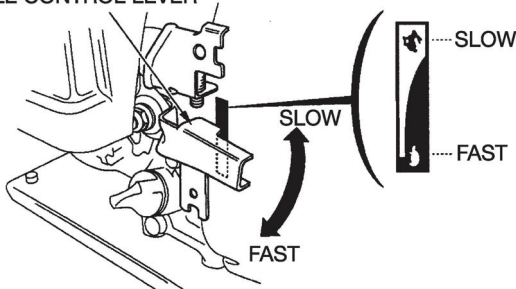

Fig. 9
7. Put the governor handle at the preset speed (as shown on the Fig. 9)